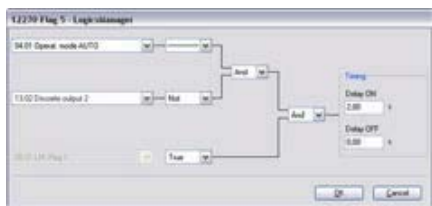

Fig. 188: LogicsManager function "Flag 5"
- Configure the LogicsManager function "Flag 5" as shown in (Fig. 188).